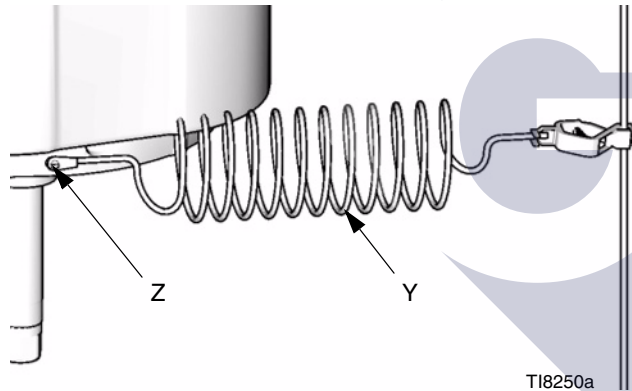

FIG. 1
Pump: use a ground wire and clamp. Remove the green ground screw (Z) from the bottom of the air motor. Insert the screw through the loop on the end of the ground wire (Y) and reattach the screw to the air motor. Connect the ground clamp to a true earth ground. See FIG. 1.